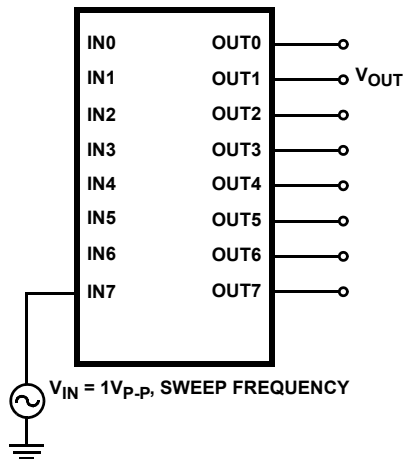
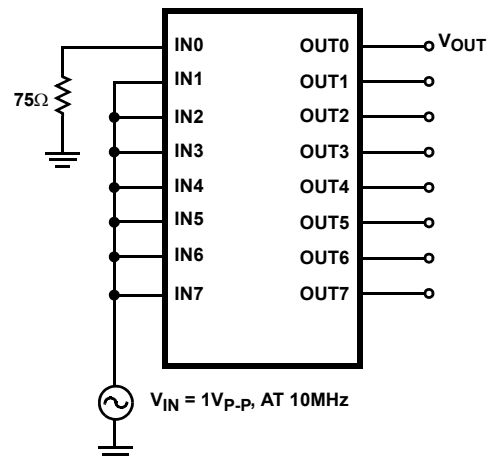

FIGURE 6. -3dB BANDWIDTH (NOTES 8 thru 11)
FIGURE 9. ALL HOSTILE CROSSTALK (NOTES 11, 16, 18 thru 20)
- See AC Test Circuits (Figure 6 through Figure 9).